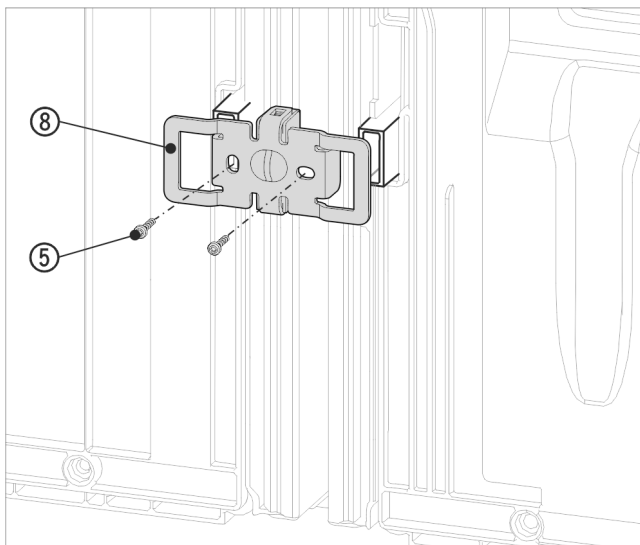

Fig. 18 Example illustration
- Slide the bracket Fig. 18 (8) on once more with the slots over the retainer for the wall spacers.
- Tighten firmly with 2 screws Fig. 18 (5).